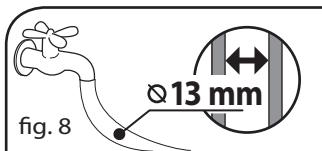

fig. 8
- Connect garden hose to the cold water source and turn water on completely (fig. 8).